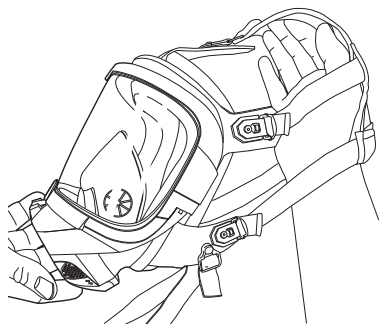

Fig. 22 Extending the straps of the head harness
4. Fully extend the straps of the head harness (Fig. 22).